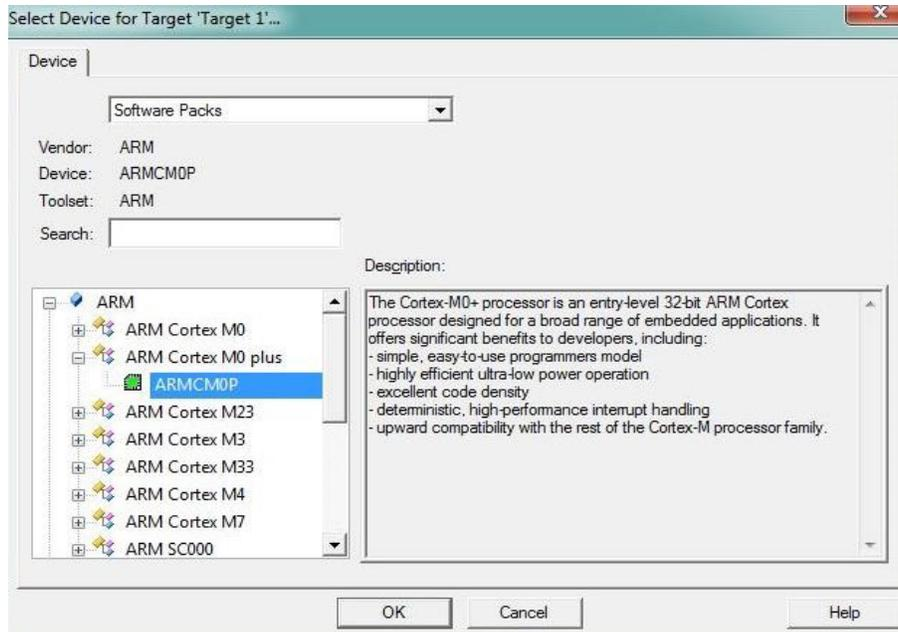

Figure 4: Select Device
4. Select **Device** and click **OK**, see figure 4.